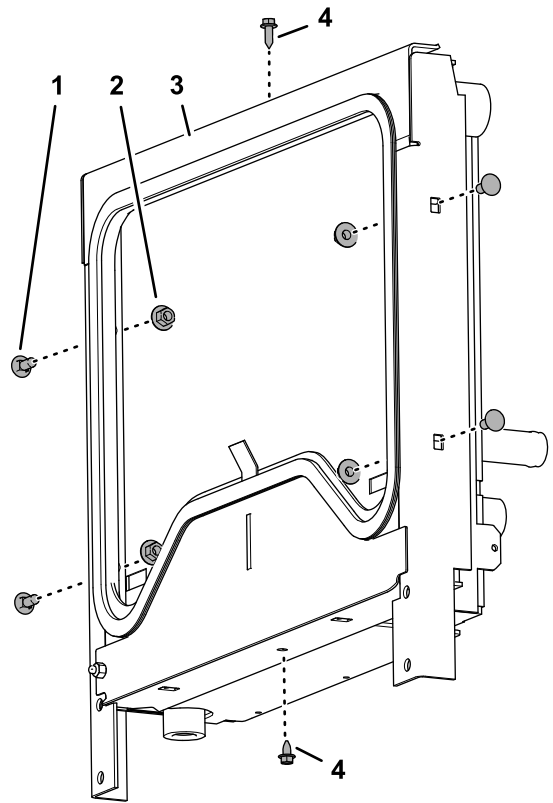

Figure 27
3. Assemble the mounting frame to the radiator/oil cooler (Figure 27) with the 4 carriage bolts (5/16 x 3/4 inch) and 4 serrated-flange nuts (5/16 inch).
2. Loosely assemble the mounting frame to the radiator/oil cooler (Figure 27) with the 2 flange head screws (1/4 x 3/4 inch).